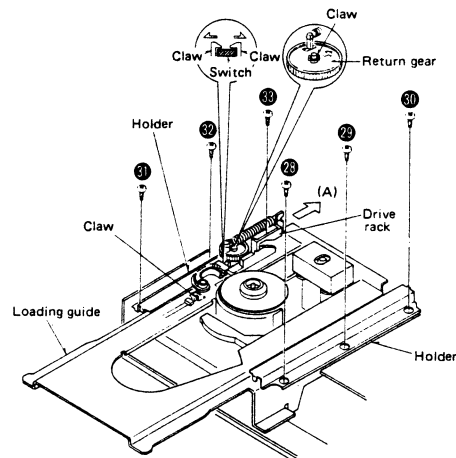

Fig. 11
2. Release the 2 claws of close switch cover to release the switch. (Fig. 11)
3. Remove the 6 setscrews [Fig. 11 ; 26 ~ 31] on the right and left sides of loading guide holder. Then the loading guide can be removed.
2. Release the return gear claw to remove the return gear. [Fig. 11]
3. Push the drive rack in the direction of arrow (A), and release the drive rack claw, then the drive rack can be removed downward. [Fig. 11]
3. Remove the loading guide holder setscrews [Fig. 11 : ⑯ ~ ⑰], (Disc holder is fitted to loading guide.)